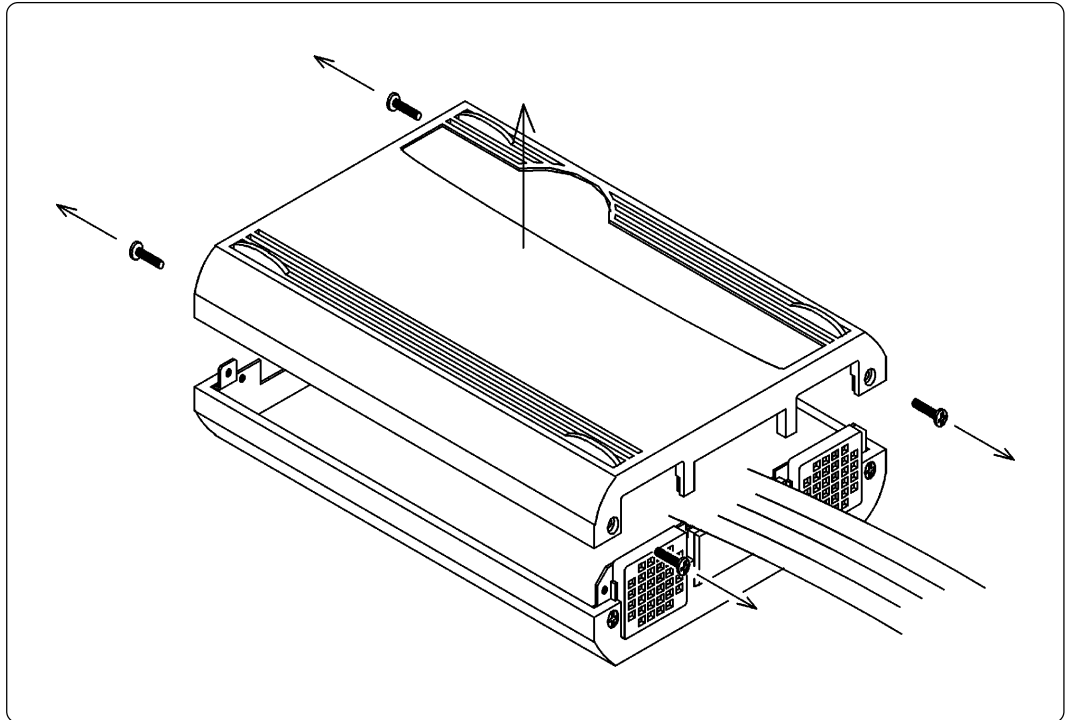

Figure 3.1 Removing the upper cover
- (1) Remove the four screws of both sides of this product and lift off the upper cover (see Figure 3.1).
- (2) Change the input frequency following the procedure.
- (3) Replace the upper cover and secure the four screws.